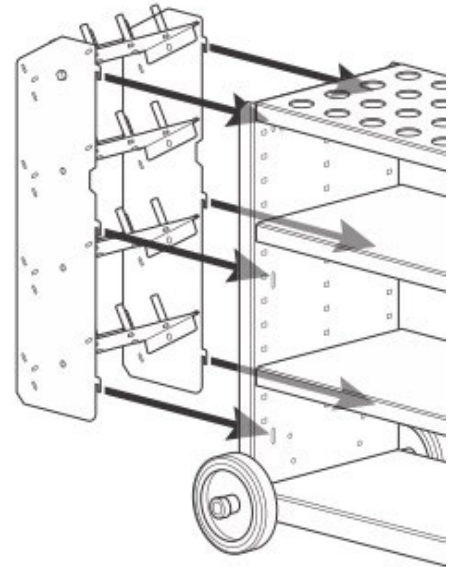

Figure 4-20
- Insert the six hook tabs on the Angled Tray Assembly into the vertical slots on the Side Panel (see Figure 4-20). Be sure to use the Side Panel that does not have the handle. When all six hook tabs are inserted, press the Angled Tray Assembly down to engage the hooks and attach to the Side Panel.